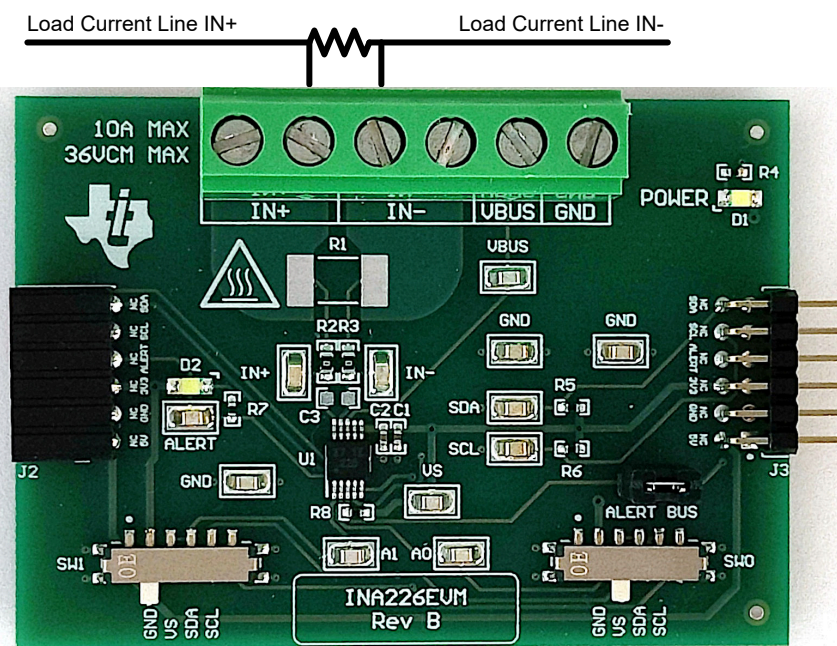
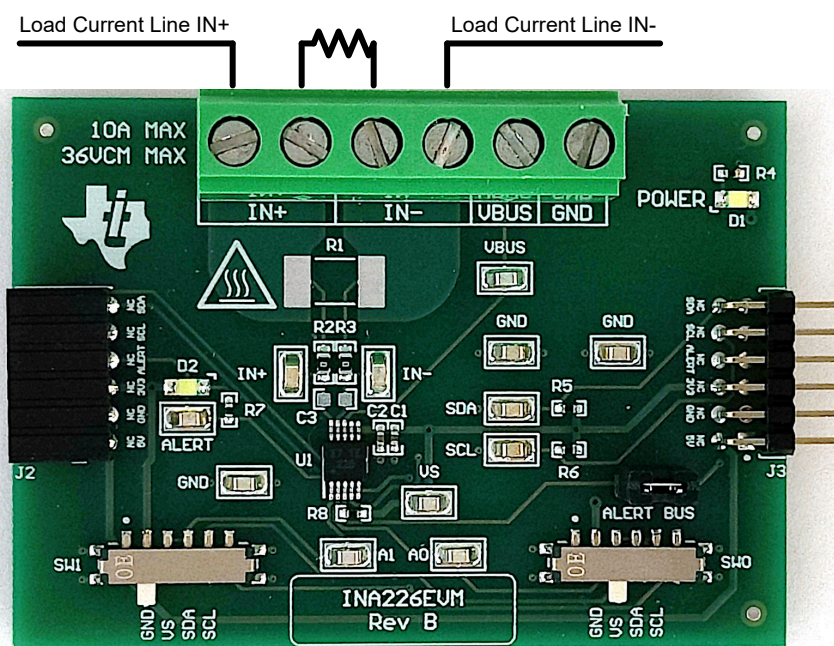

Figure 4-14. IN+ and IN- Wiring for More Than 10A
Figure 4-15. IN+ and IN– Wiring for 10A or Less
- b. Connect an external shunt across the IN+ and IN- terminals of J1, preferably across pins 4 and 5, as shown in Figure 4-14 and Figure 4-15.
- a. When measuring more than 10 A, make sure the high current path does not go through the EVM (including the terminal block J1), as shown in Figure 4-14.
- b. When using 10 A or less with either an onboard or external shunt, the current path can be passed through the EVM. Figure 4-15 shows a convenient way to use the multiple IN+ and IN- terminals with an external shunt for this use case.